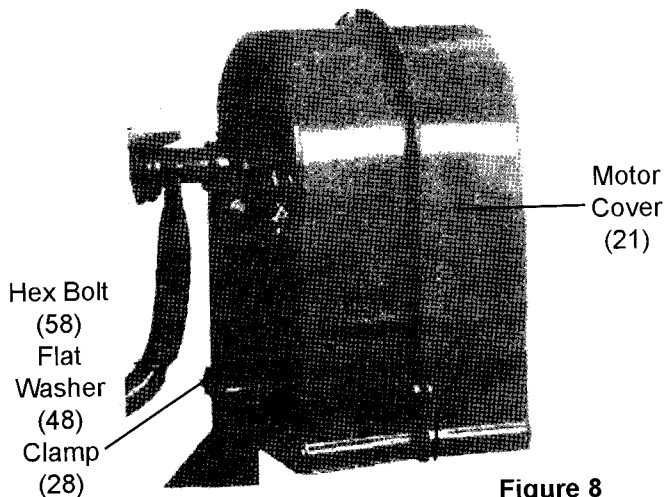

Figure 8
21. Using the Hex Bolt (58), Flat Washer (48), Hex Nut (38) and Clamp (28) to attach the Motor Bracket (25) to the Motor Hood. See Figure 8. Tighten connections until secure.
24. Place the Motor (30) onto the Motor Bracket.
25. Use Hex Bolt (41), Flat Washer (37) and Hex Flange Nut (34) to secure the Motor to the Motor Mount Plate. Hand-tighten all four Hex Nuts since the motor will be adjusted forward or backward later.
27. Once the Pulley is pushed in all the way, use an hex key wrench (not included) to tighten the Screw (59) on the side of the Pulley's hub.
28. Attach the V-Belt (60) by placing it around the Motor Pulley (24) and then over the Drum Pulley (18). Using a flat-edge screwdriver (not included), push the Motor inward until the Motor is directly under the Drum Pulley. Tighten the Bolts securing the Motor to the Motor Bracket (25).
29. Push the Motor downward until the Belt tension is tight. When proper V-Belt (60) tension (see page 11 under "Belt Inspection and Tensioning") is achieved, tighten the Hex Bolt (58).
31. Mount the Motor Cover (21) to the Motor Hood (20) using three Screws (40), Flat Washers and Hex Flange Nuts (38). See Figure 8.
32. **CAUTION!** Make sure that the power cord from the Motor to the Switch (49) does not come in contact with any moving parts.